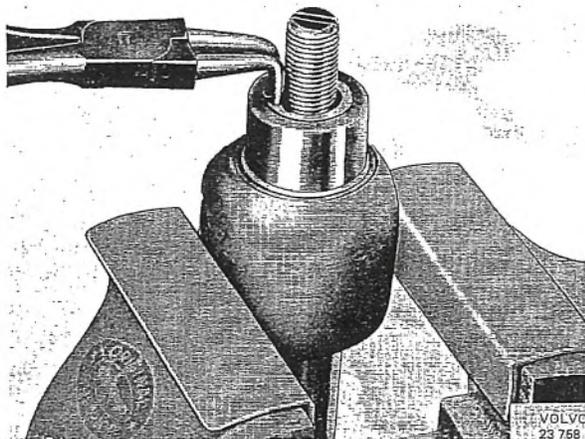

Fig. 6-42. Removing adjusting screw
4. Carefully tap on the steering worm shaft (10) so that the lower bearing outer race releases from the housing. Take out the shaft (10) with bolt and bearing.
5. Release the locknut (3) and unscrew the adjusting screw (2) from the cover. The adjusting bolt can be removed from the pitman arm shaft after the lock ring has been taken off, see Fig. 6-42.